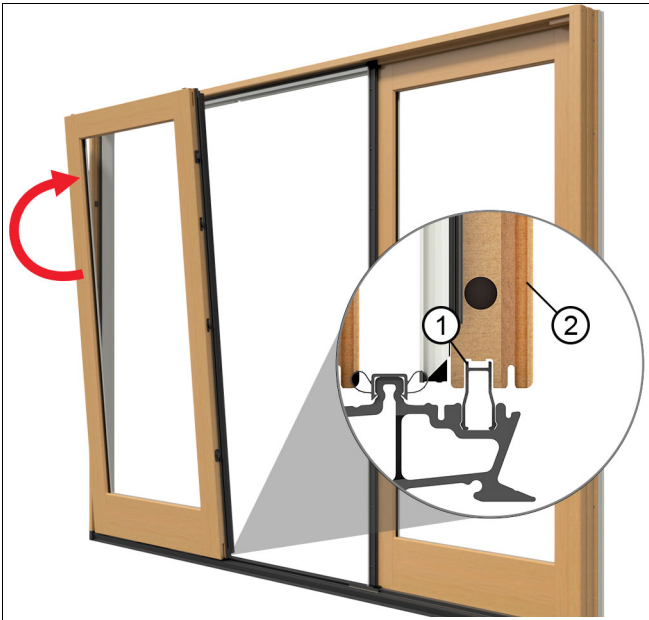

Figure 35
**13.** From the interior, set the inboard stationary panel (with alignment bolts) onto the interior sill stationary block. The block corresponds to a groove in the bottom of the panel. Tip the panel in until it locks into place, then slide the panel over to the side jamb. See Figure 35